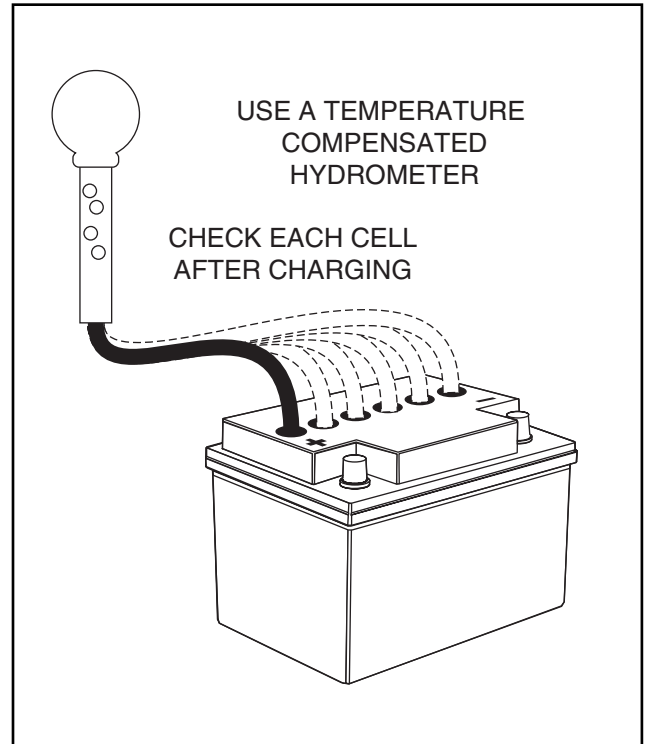

Figure 6-5. Checking 12 Volt Battery Cells
3. With battery fully charged, check specific gravity readings of each cell with a Battery Hydrometer and record readings (Figure 6-5). All readings should be above 1.250 (compensating for temperature). If specific gravity readings varied 0.50 or if all cells read less than 1.225, replace battery.